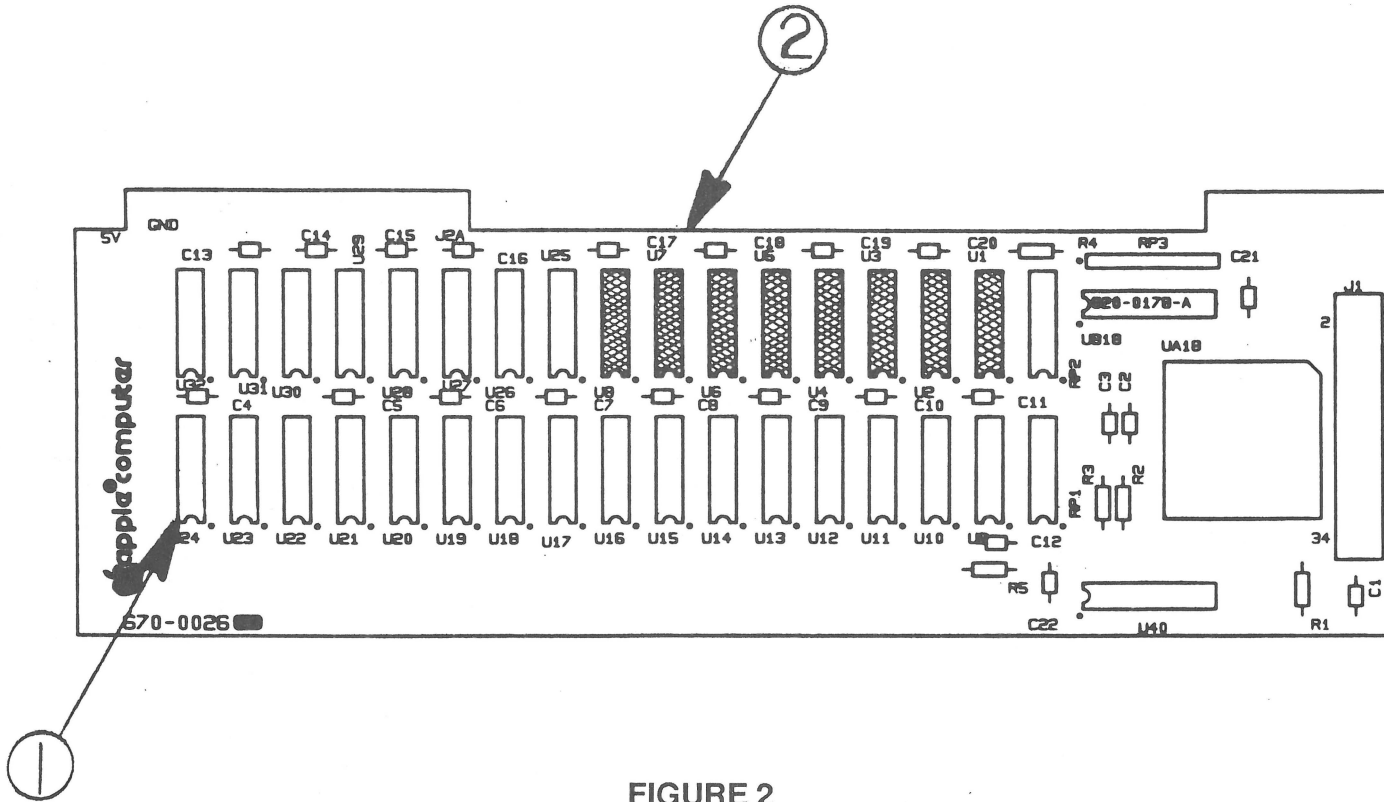

FIGURE 2
- IPL.5 Memory Expansion Card (Figure 2)
□ APPLE IIc – MEMORY EXPANSION CARD (Figure 2)
Note: The eight ICs that are shadowed in Figure 2 are soldered to the Memory Expansion Card. The 24 sockets on the card can be filled with 256K RAM ICs for memory expansion.